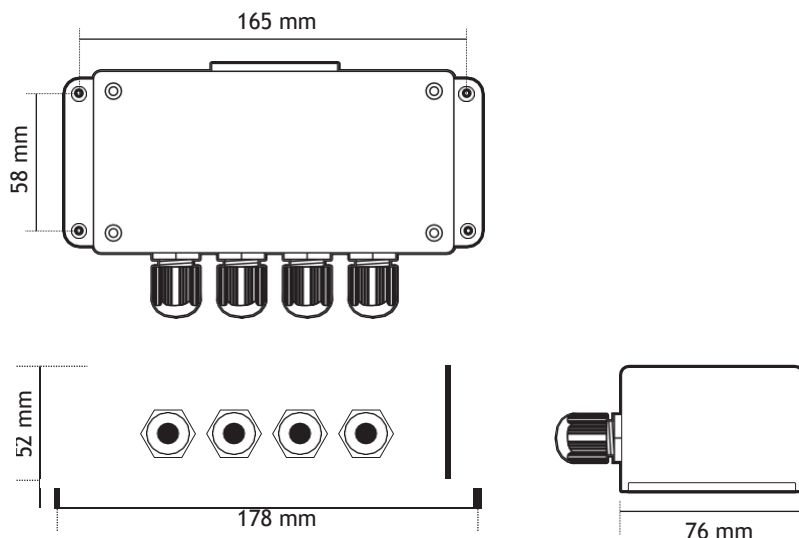

Figure 35 Junction box dimensions
- There should be adequate space around the junction box for routing of cables. See Figure 35 for details of the junction box dimensions.